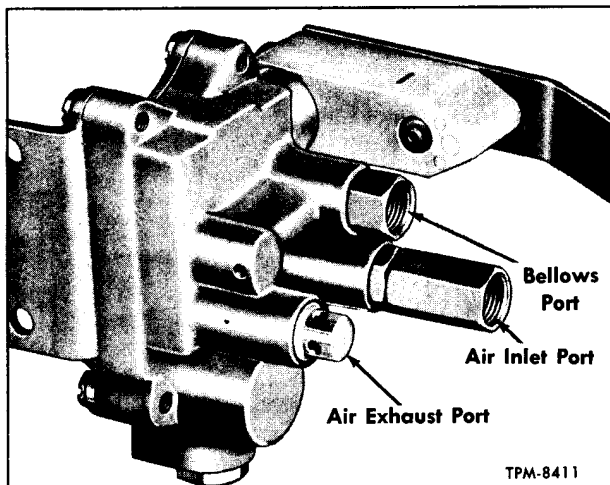

Figure 28—Identification of Valve Air Ports
2. Connect air pressure line to air inlet port (fig. 28), then open the air pressure (80-110 psi).
5. Remove air pressure line from air inlet fitting and connect it to the bellows port (fig. 28). If bubbles appear at the air inlet check valve port, this is an indication that check valve unit is defective and must be replaced.
6. If bubbles appear at the exhaust port (fig. 28), it is an indication that the exhaust valve assembly is defective and must be replaced.
6. If a vacuum source is available, attach supply hose to valve exhaust port (fig. 28) using Sun Tester fitting #115-3 or equivalent. Do not apply vacuum at this time.
7. Attach air pressure supply hose to air inlet port (fig. 28). Do not apply pressure at this time.
1. Connect air supply hose (80 to 110 psi) to air inlet port (fig. 28).
b. Being careful not to disturb indicator setting, disconnect air supply from the air inlet port and connect it to the bellows port (fig. 28).